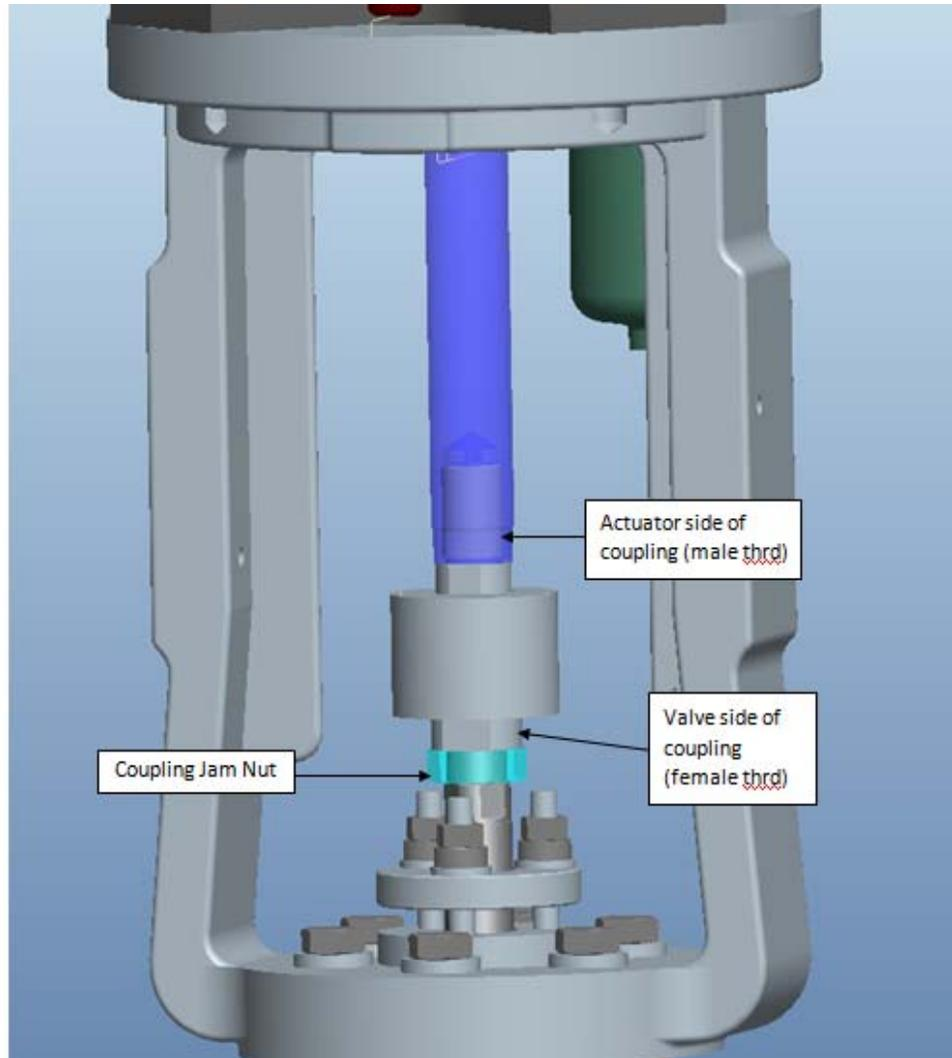

Figure 4-2. Actuator/ Valve Coupling Detail
13. Remove the coupling from the actuator shaft (see Figure 4-2).